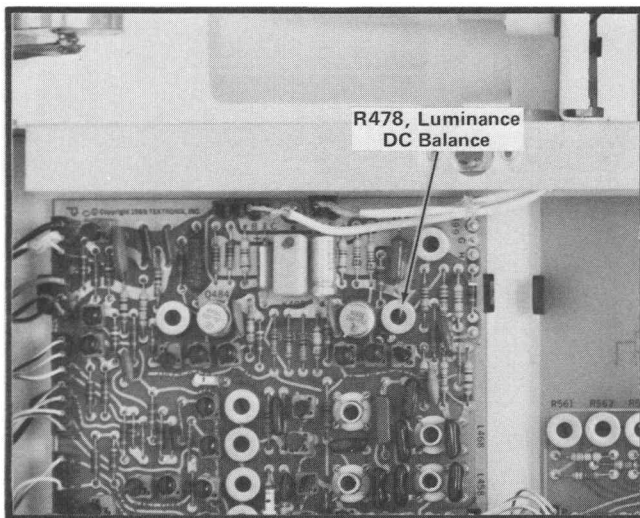

Fig. 6-2. Bar Drive and Video Out board adjustment location.
e. ADJUST—R478, Luminance DC Bal, to position the blanking level of the display to the reference established in step b (see Fig. 6-2).